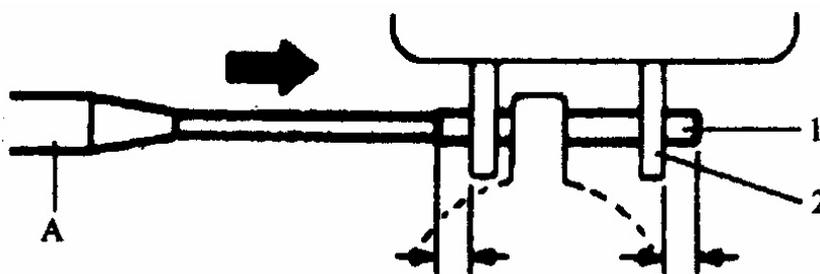

FIG.16-63 1.Spring pin 2. Pipe fitting
- (3) install seal bush and pipe fitting, and install spring pin using special tools. (FIG.16-63)